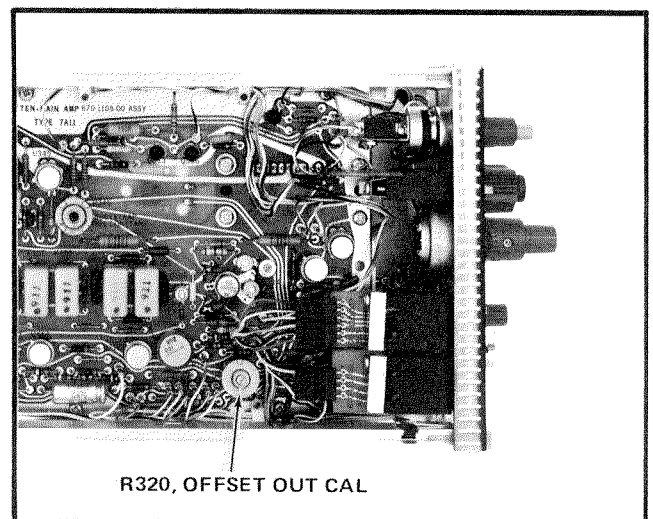

Fig. 5-8. Adjustment location, step 7.
f. CHECK—OFFSET OUT accuracy. Using the Differential Voltmeter and the Cable Assembly (item 18), check the voltage at the OFFSET OUT jack. It should be equal to the following: $-500\text{ mV} \pm 5.5\text{ mV}$ with Amplitude Calibrator And Comparator; $-400\text{ mV} \pm 10.5\text{ mV}$ with Oscilloscope Calibrator.
g. (Calibration Procedure only.) ADJUST—OFFSET OUT CAL - R320 (Fig. 5-8) as necessary to obtain 500 mV OFFSET OUT voltage with Amplitude Calibrator And Comparator, or 400 mV with Oscilloscope Calibrator. Note that R320 interacts on the trace position and the front-panel OFFSET controls will have to be readjusted to keep the trace at graticule center.